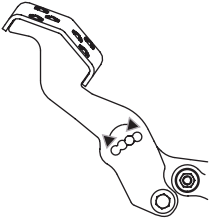

Figure 42
- Position the pedal to the optimal position based on operator preference (Figure 42).